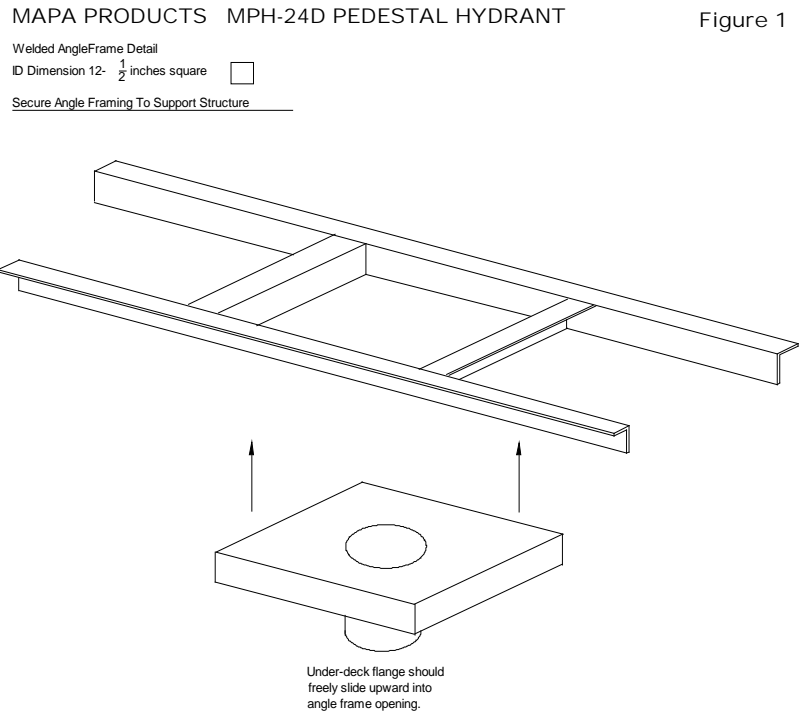

Figure 1
**Support Framing:** We strongly recommend that prior to the installation of this roof mounted Pedestal Hydrant that a field provided welded angle frame be installed at the bottom surface of the roof decking. This framing should be of sufficient size to permit the provided under-deck flange to slide freely yet firmly into the frame and rest firmly against its top. The framing should be of sufficient strength to prevent any dislodging of the Hydrant during normal operation. Refer to **Figure 1** of these instructions.